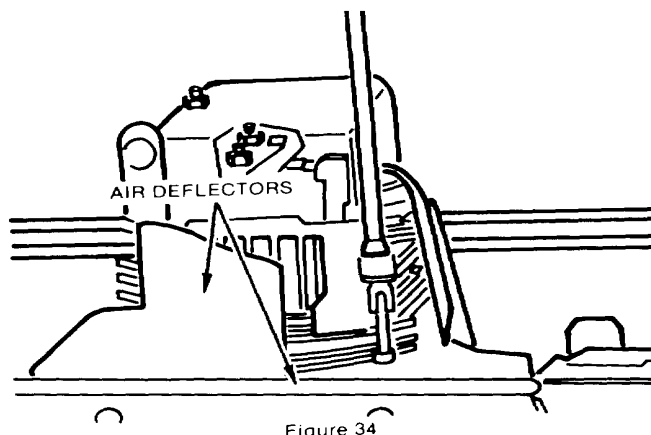

Figure A-3. Air Deflectors
e. Air Deflectors. Using a 4mm allen socket, remove the two allen head screws and lockwashers holding the air deflector shields on top of the crankcase. (Figure A-3)